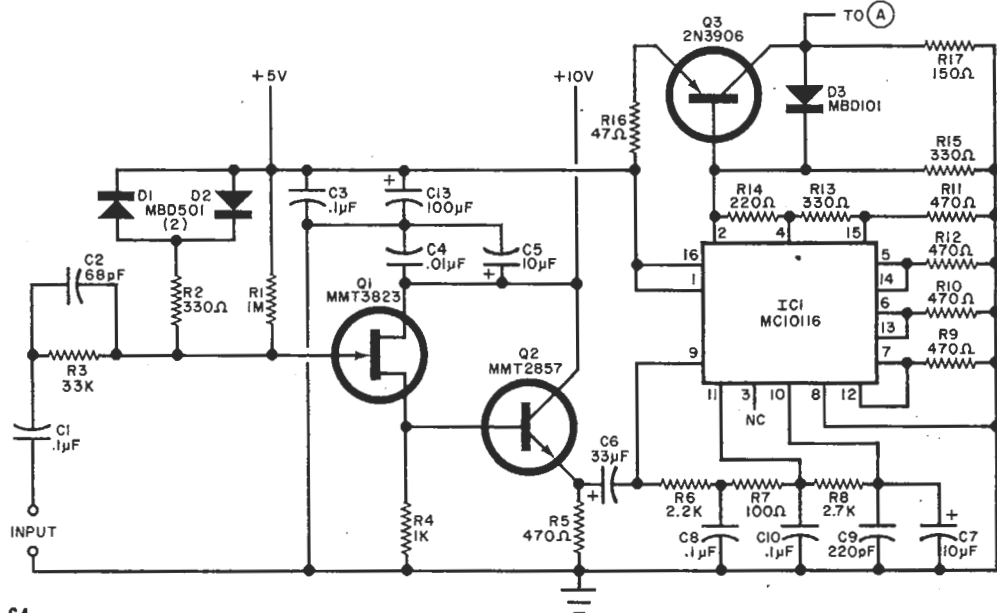

Fig. 1. Schematic diagram of counter's input stage.
**About the Circuit.** The frequency counter is illustrated schematically in Figs. 1 and 2. Input signals are coupled by C1 to transistors Q1 and Q2, which comprise a unity-gain buffer with a high input impedance. Diodes D1 and D2, together with R3, protect the buffer from excessive input signal levels. A 10,000-series ECL triple line receiver, IC1, amplifies the voltage developed across R5. The third stage of this IC is used as a